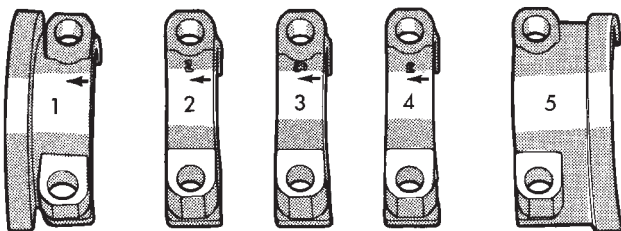

Fig. 10 Camshaft Bearing Caps Installation
- (1) Install cam followers in correct order as removed.
- (2) Align camshaft bearing caps in proper sequence with Cap No. 1 at timing belt end and Cap No. 5 at transmission end. Arrows on Caps No. 1, 2, 3, 4 **must** point toward timing belt to prevent cap breakage (Fig. 10).